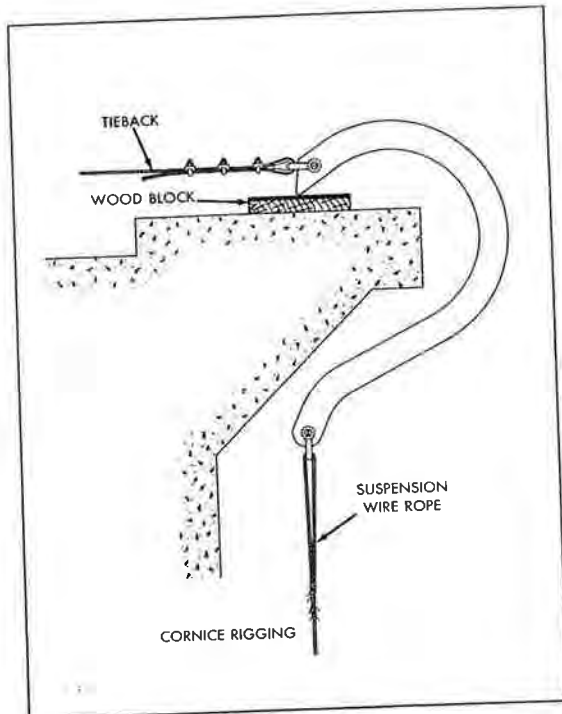

Figure 43
**Cable Clamps (Fig. 43)**
### **Cornice Hook SA-1017 and SA-1021 (Figs. 43 and 44)**